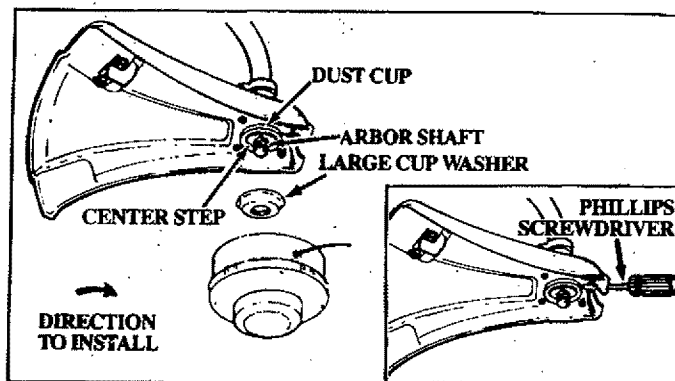

Figure 2
### 2. TRIMMER HEAD – Figure 2 & 3
- Place the Large Cup Washer on the Arbor Shaft. Fit the center opening of the Washer around the shoulder of the Dust Cup. Make sure the Washer is against and curved over the Dust Cup. Figure 2.